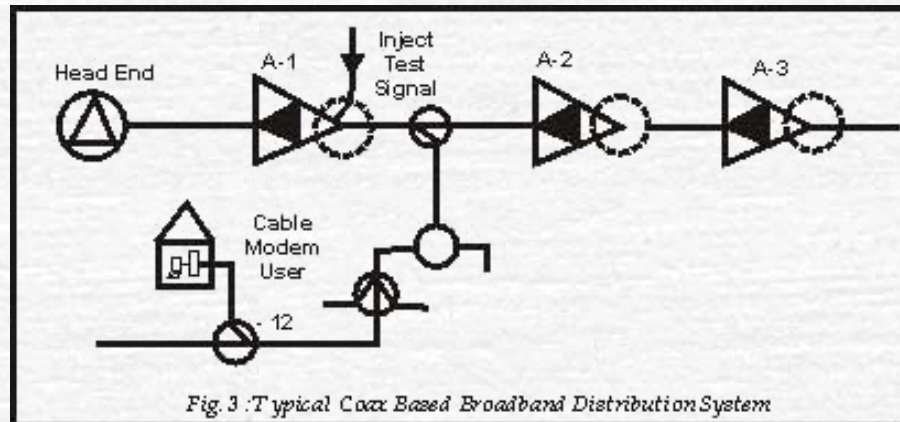

Fig. 3 : Typical Coax Based Broadband Distribution System
Figure 3 shows a line diagram of a Cable TV network with a customer's modem located some distance away from the Headend. It must be kept in mind that not just the trunk amplifiers but all amplifiers feeding signals to broadband customers, need to be bi-directional amplifiers, since the reverse path signal sent out by the cable modem must be passed right through the chain of amplifiers back to the headend. A single mal function will kill the signal.
Let us take a closer look at Figure 3. Ignoring the cable losses, the reverse path signal loss from the cable modem to point (X) (i.e. the output of the First amplifier A-1) will be 12 dB branch loss + 2 dB in / out loss + 4 dB 2 Way splitter loss + 12 dB branch loss = 30 dB loss. Hence the cable modem will have to transmit a signal of 100 dBu if this signal is to reach point (X) as a 70 dBu signal. Add a couple of dB for cable attenuation and we realise that the cable modem is often called upon to deliver a more than 100 dB signal level! If there is a larger chain of passives, the reverse path loss will increase even further and the cable modem could very soon be called upon to put out more than its maximum specified output level of 112 dBu. A passive reverse amplifier, may sometime be the proverbial last straw!